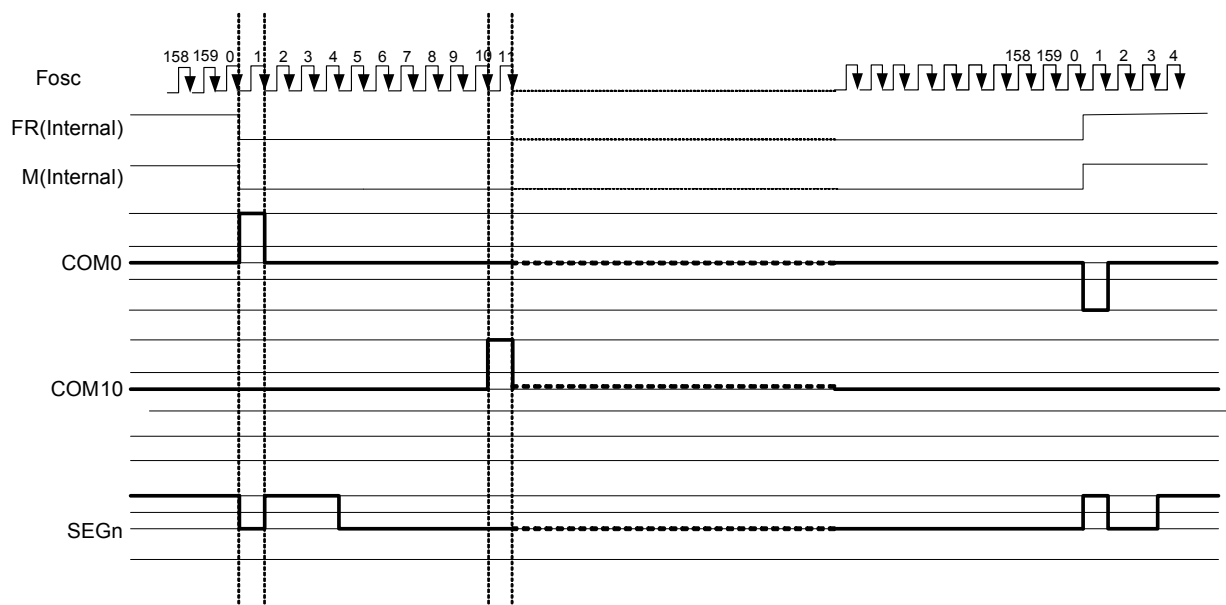

Figure 8 2 frame AC Driving Waveform (Duty Ratio: 1/160)
This circuit generates some signals to be used for displaying LCD. The display clock, which is generated by oscillation clock, generates the clock for the line counter and the signal for the display data latch. The line address of on-chip RAM is generated in synchronization with the display clock and the display data latch circuit latches the display data in synchronization with the display clock. The display data, which is read to the LCD driver, is completely independent of the access to the display data RAM from the microprocessor. The display clock generates an LCD AC signal (M), which enables the LCD driver to make an AC drive waveform, and also generates an internal common timing signal and start signal to the common driver. The frame signal or the line signal changes the M by setting internal instruction. Driving waveform and internal timing signal are shown in Figure 8.